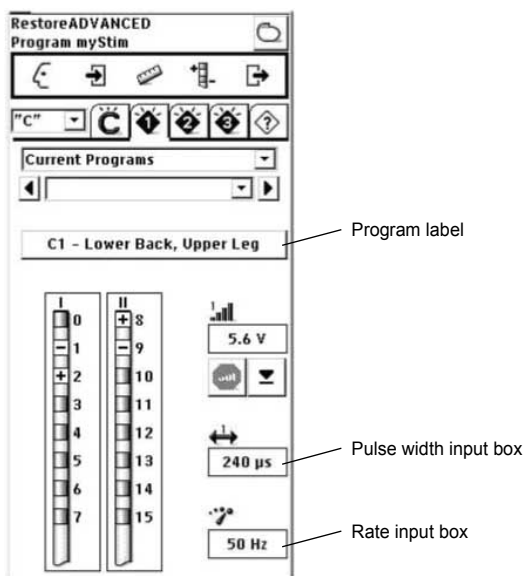

Figure 29. Programming pulse width or rate on a program tab.
4. Select the pulse width input box or the rate input box (Figure 29).